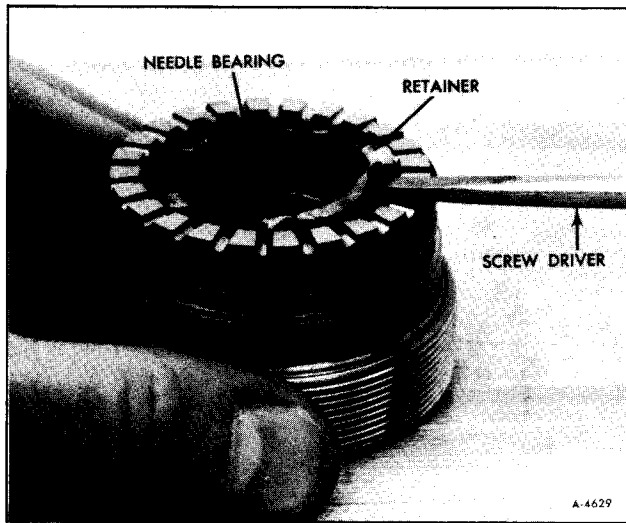

Figure 31—Removing Retainer
2. If ONLY the thrust bearing is to be removed, pry the thrust bearing retainer at the two raised areas with a small screwdriver (figure 31). Remove the spacer, thrust bearing washer, thrust bearing and washer.